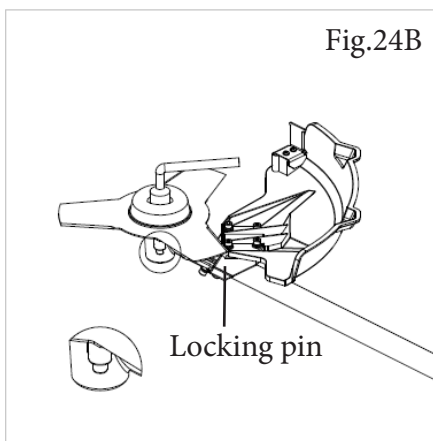
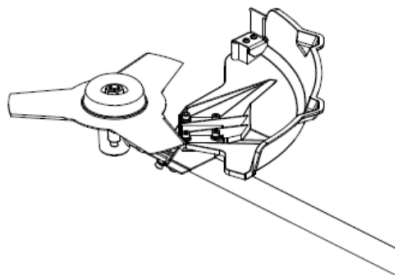

Fig.24B
Fig.24C
c) Press the locking pin and at the same time turn the nut clockwise with the wrench provided to assemble it. (Fig.24B/Fig.24C)